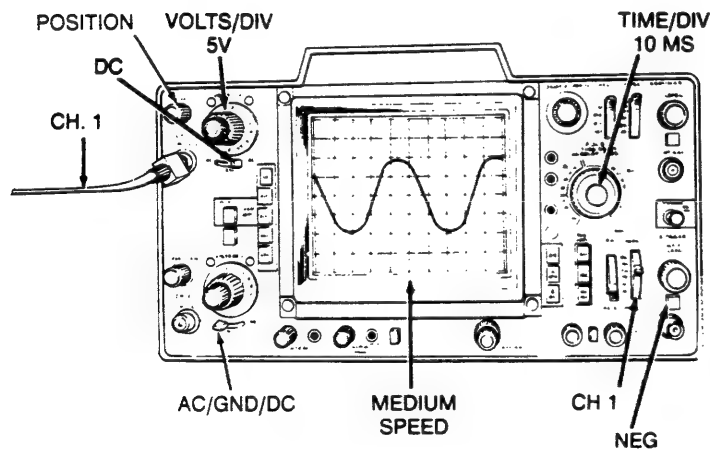

Figure 3-5A
1. Set the Oscilloscope controls as shown in Figure 3-5A.
5. Establish a ground reference at the center of the scope screen by setting AC/GND/DC to GND, adjusting the POS Control, and returning AC/GND/DC to DC (Figure 3-5A).
10. Connect the Channel 1 Scope Probe to TP3 (A LEFT PHOTO). See Figure 3-5A.